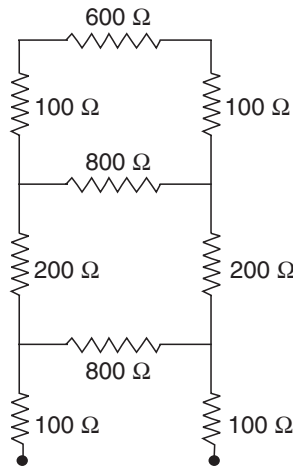

Fig. 61
19. What is the equivalent resistance of the network shown in Fig. 61? [Ans. $600\ \Omega$]